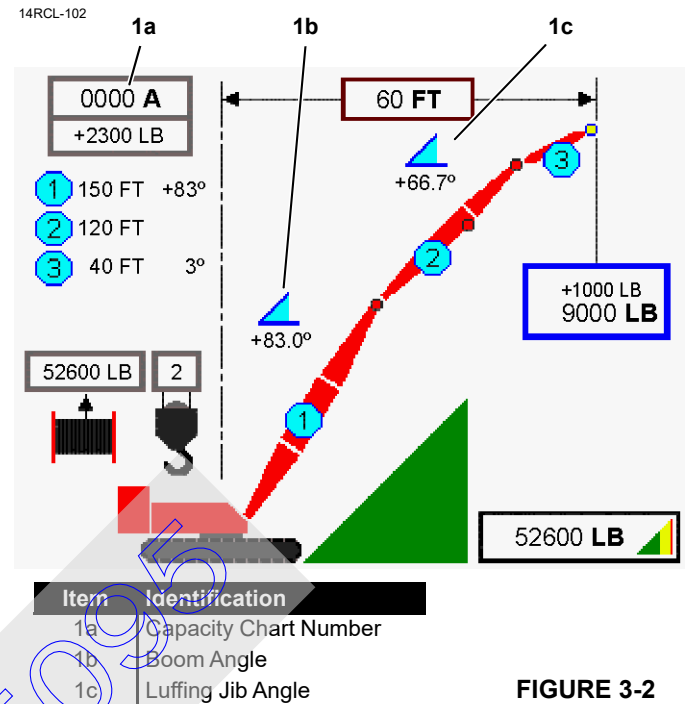

FIGURE 3-2
When selected, chart number (1a, Figure 3-2) will appear in the working screen of the display. See Luffing Jib Operator Information Manual in the cab for a complete list of luffing jib capacity charts for your crane.
Refer to item 1b, Figure 3-2.
Refer to item 1c, Figure 3-2.